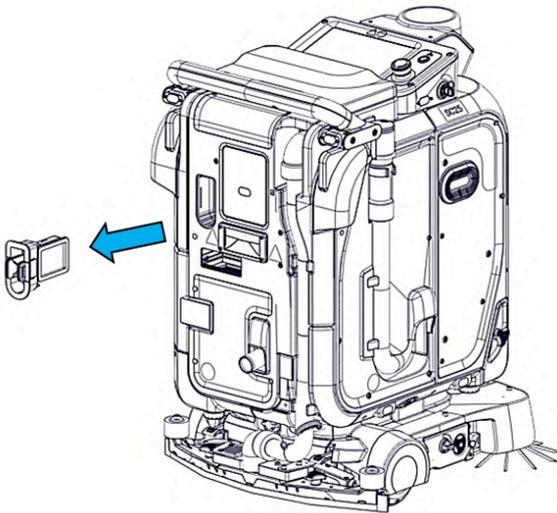

FIGURE 10-25
1. Pull out the HEPA filter holder (29) (Fig. 10-25).